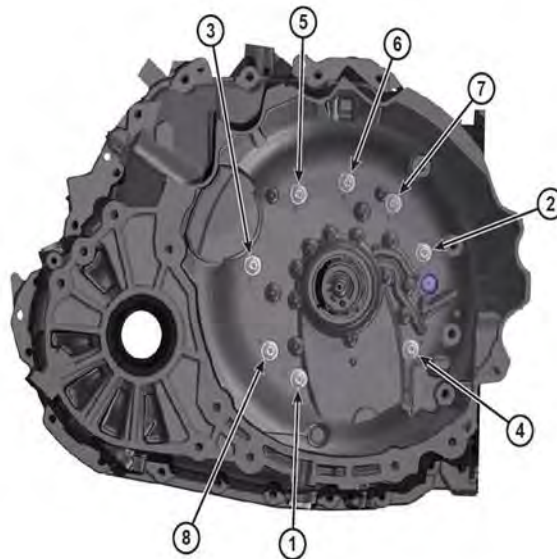

Fig. 23 Inner Bellhousing Bolt Torque Sequence
58. Install the inner bellhousing bolts and torque, in sequence, to 29 Nm (21 ft. lbs.). See (Fig. 23).